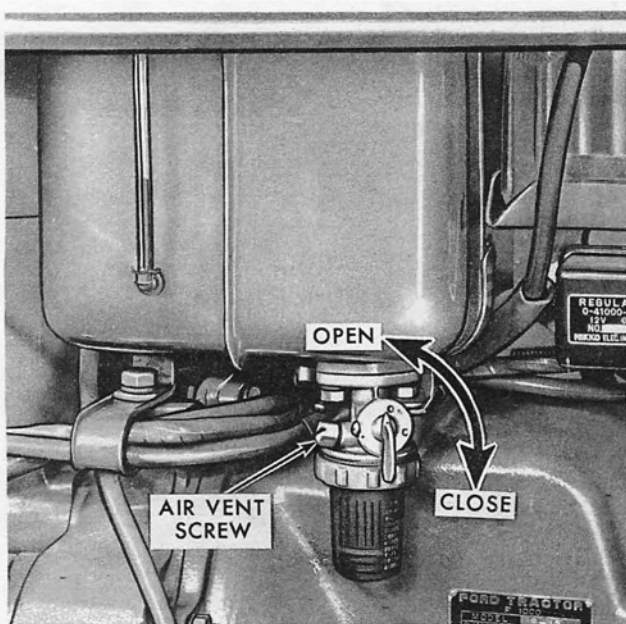

Figure 27
1. Be sure there is adequate fuel in the fuel tank; close the fuel shut-off, Figure 27, then remove the fuel sediment bowl.
1. Close the shut-off valve, Figure 27.
3. Loosen the fuel strainer air vent screw, Figure 27, and let the air bubbles escape from the strainer, then tighten the vent screw.